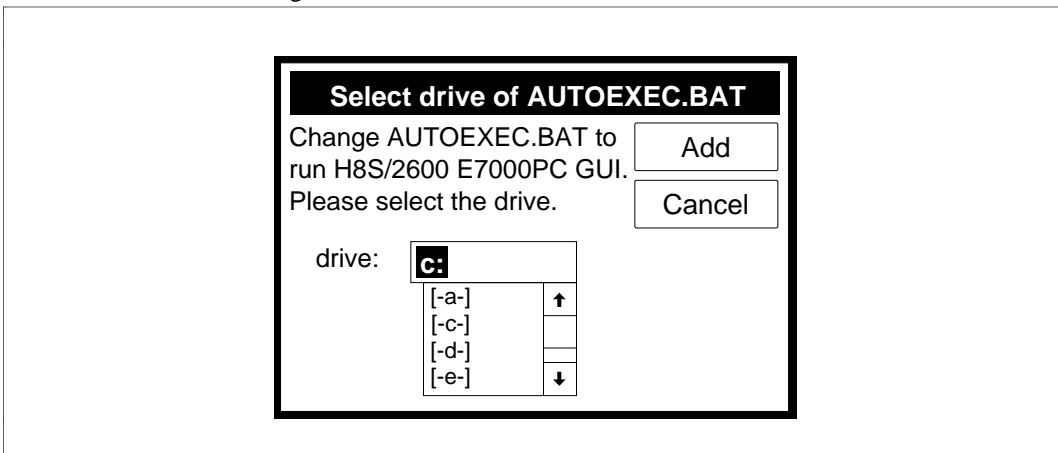

Figure 2-7 AUTOEXEC.BAT File Drive Specification (INSTALL)
- (10) Click the <OK> button; a dialog box is displayed prompting the user to specify the drive storing the AUTOEXEC.BAT file, as shown in figure 2-7. Click or input from the keyboard the drive name storing the AUTOEXEC.BAT file.